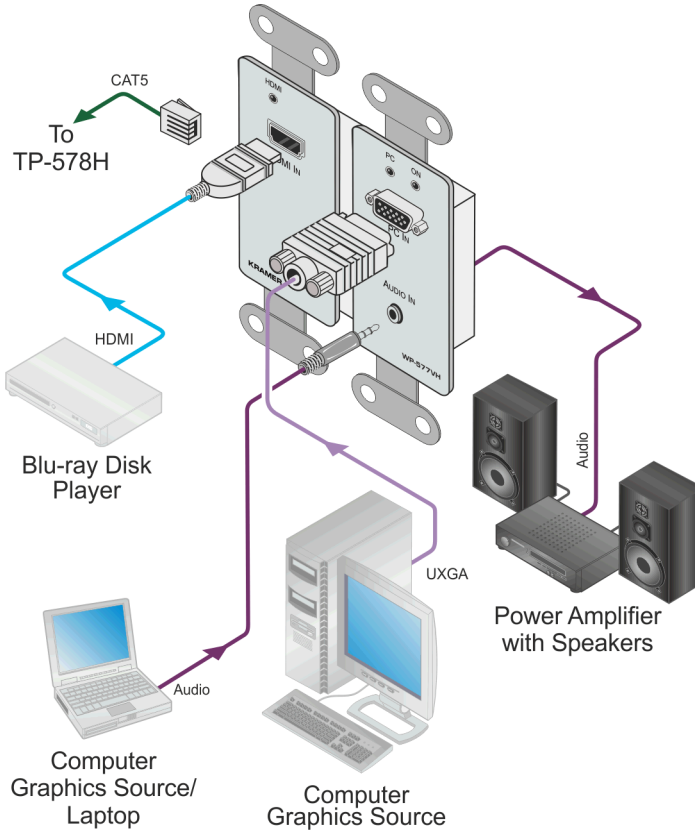

Figure 3: Connecting the WP-577VH Wall Plate
To connect the **WP-577VH** as illustrated in the example in Figure 3:
3. If not using PowerConnect, connect the power adapter to the **WP-577VH** and to the mains electricity (not shown in Figure 3).